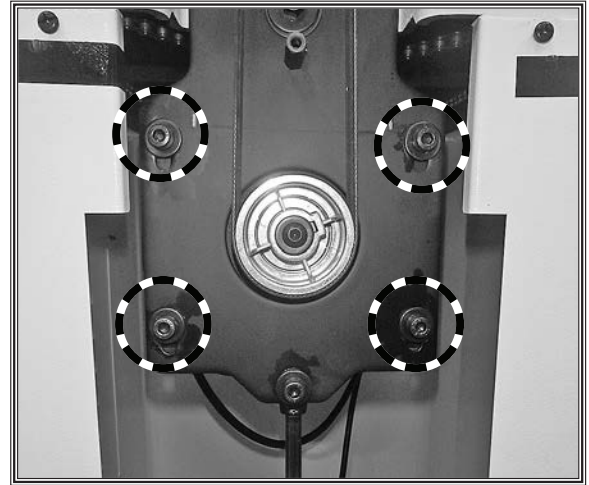

Figure 40. Location of motor mount cap screws.
4. To adjust V-belt tension, loosen (4) motor mount cap screws (see **Figure 40**), then raise or lower motor.